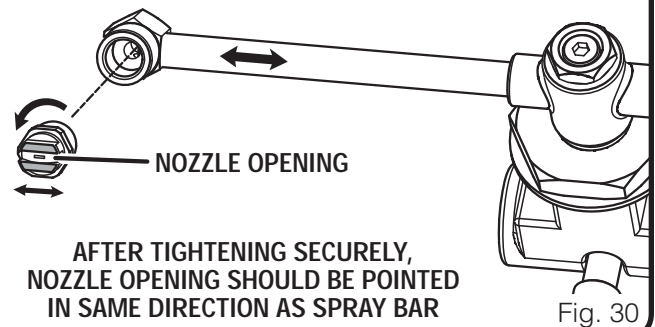

Fig. 30
- Reconnect the nozzle to the spray bar and tighten securely. After tightening, make sure the nozzle opening is pointed in the same direction as the spray bar as shown in figure 30.